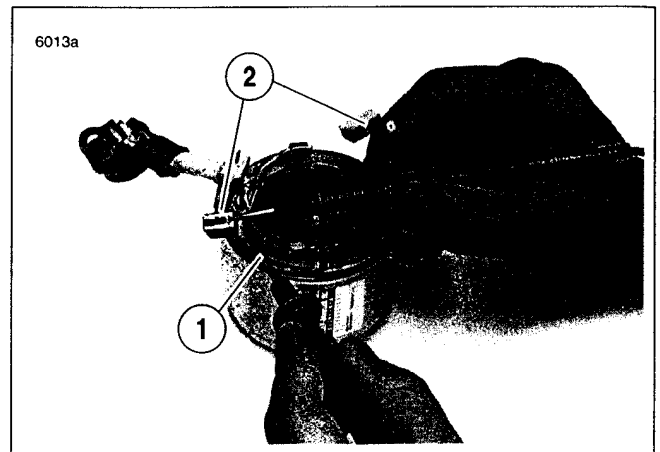
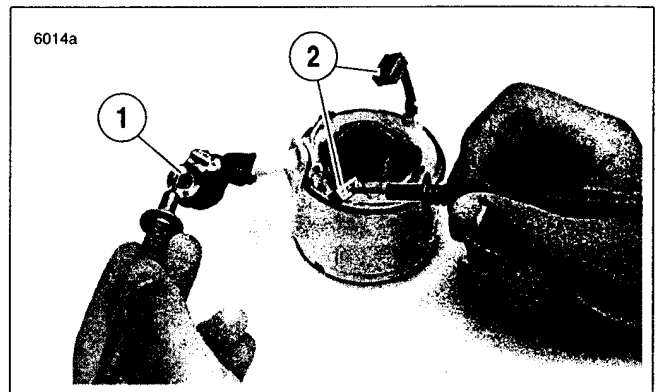
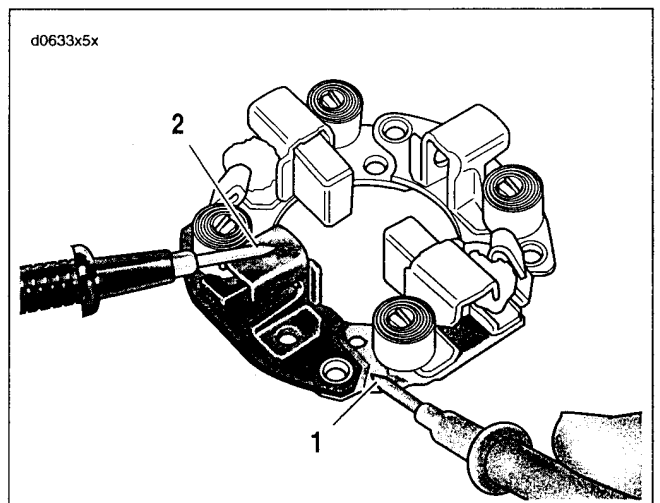

Figure 5-19. Grounded Field Test
Figure 5-20. Open Field Test
Figure 5-21. Brush Holder Insulation Test
13. See Figure 5-19. Check for GROUNDED FIELD COIL with an ohmmeter or continuity tester.
- a. Touch one probe to the frame (1).
- b. Touch the other probe to each of the brushes (2) attached to the field coil.
14. See Figure 5-20. Check for OPEN FIELD COILS with an ohmmeter or continuity tester.
- a. Touch one probe to the field wire (1).
- b. Touch the other probe to each of the brushes attached to the field coil(s) (2).
15. See Figure 5-21. Test BRUSH HOLDER INSULATION with an ohmmeter or continuity tester.
- a. Touch one probe to holder plate (1).
- b. Touch the other probe to each of the positive (insulated) brush holders (2).